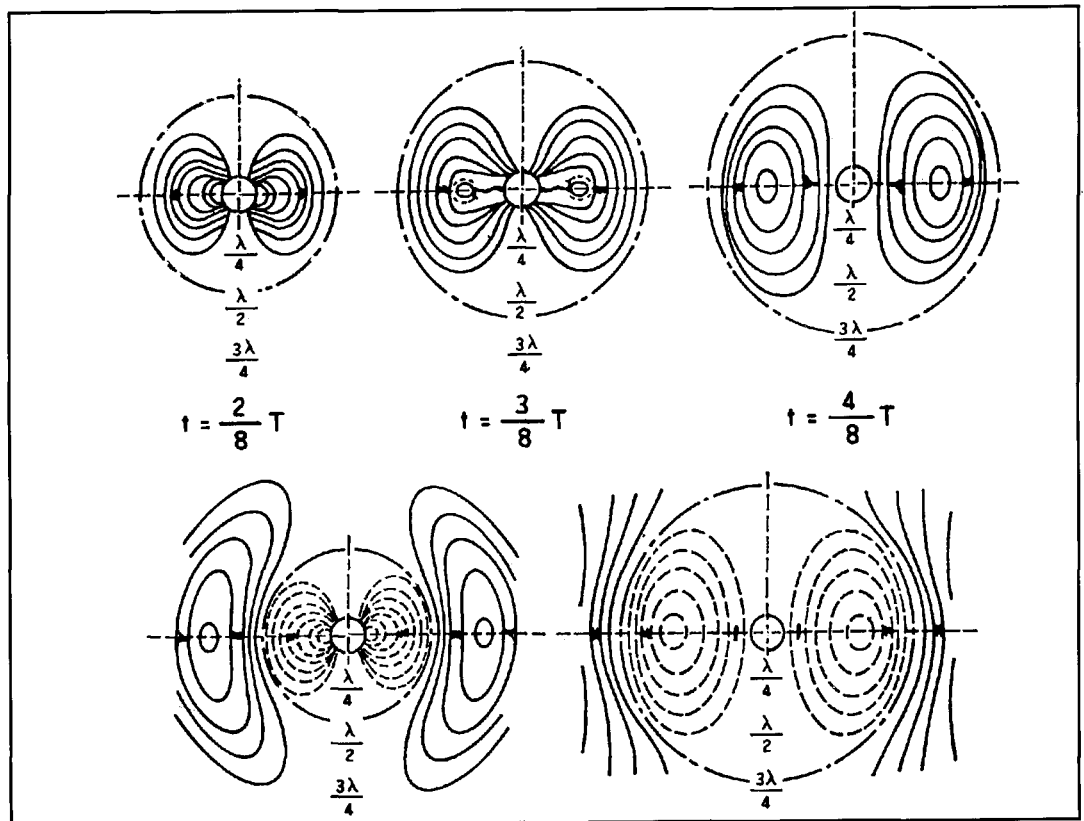

Figure 3. Radiation field of dipole.
**Figure 3** shows, for an oscillation of period T over a number of moments in time, how the field of radiation builds up around a dipole, frees itself from the antenna, and is launched as a wave into space.3
Propagation of ground waves across an ideally conducting surface can be derived directly from propagation in free space. If, with a dipole in free space as shown in Figure 3, an ideally conducting surface is arranged at the feedpoint of an antenna and perpendicular to its axis, one obtains the characteristic field pattern of a vertical antenna. How a wave frees itself from an antenna can be shown very clearly in this case.6